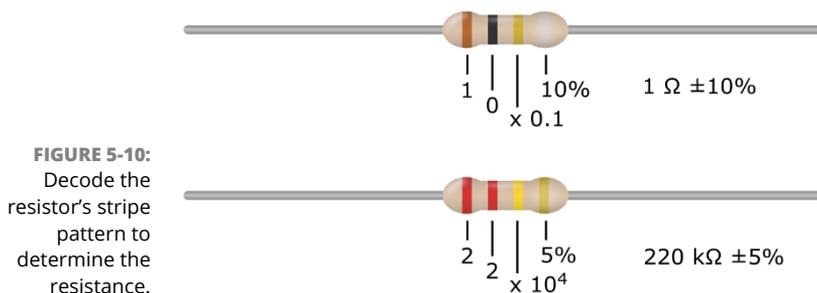

FIGURE 5-10: Decode the resistor's stripe pattern to determine the resistance.
- » **Red-red-yellow-gold:** A resistor with red (2), red (2), yellow (4 zeros), and gold ($\pm 5\%$) bands (see Figure 5-10, top) provides a nominal resistance of 220,000 Ω , or 220 k Ω , which could vary up or down by as much as 5% of that value. So it could have a resistance of anywhere between 209 k Ω and 231 k Ω .
- » **Brown-black-gold-silver:** A resistor with brown (1), black (0), gold (0.1), and silver ($\pm 10\%$) bands (see Figure 5-10, bottom) provides a resistance of 10×0.1 , or 1 Ω , which could vary by up to 10% of that value. So the actual resistance could be anywhere from 0.9 Ω to 1.1 Ω .